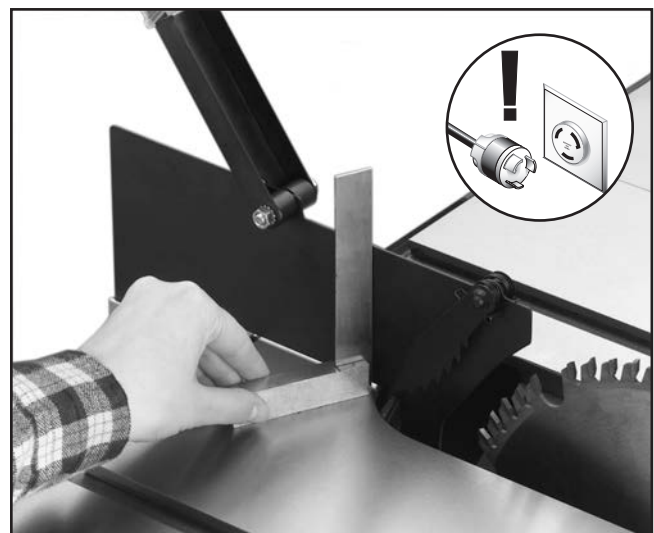

Figure 17. Blade splitter square to table.
2. Set a machinist's square against the face of the blade splitter. Slightly rotate the rear bracket to adjust the face of the blade splitter perpendicular to the table top as shown in **Figure 17**.